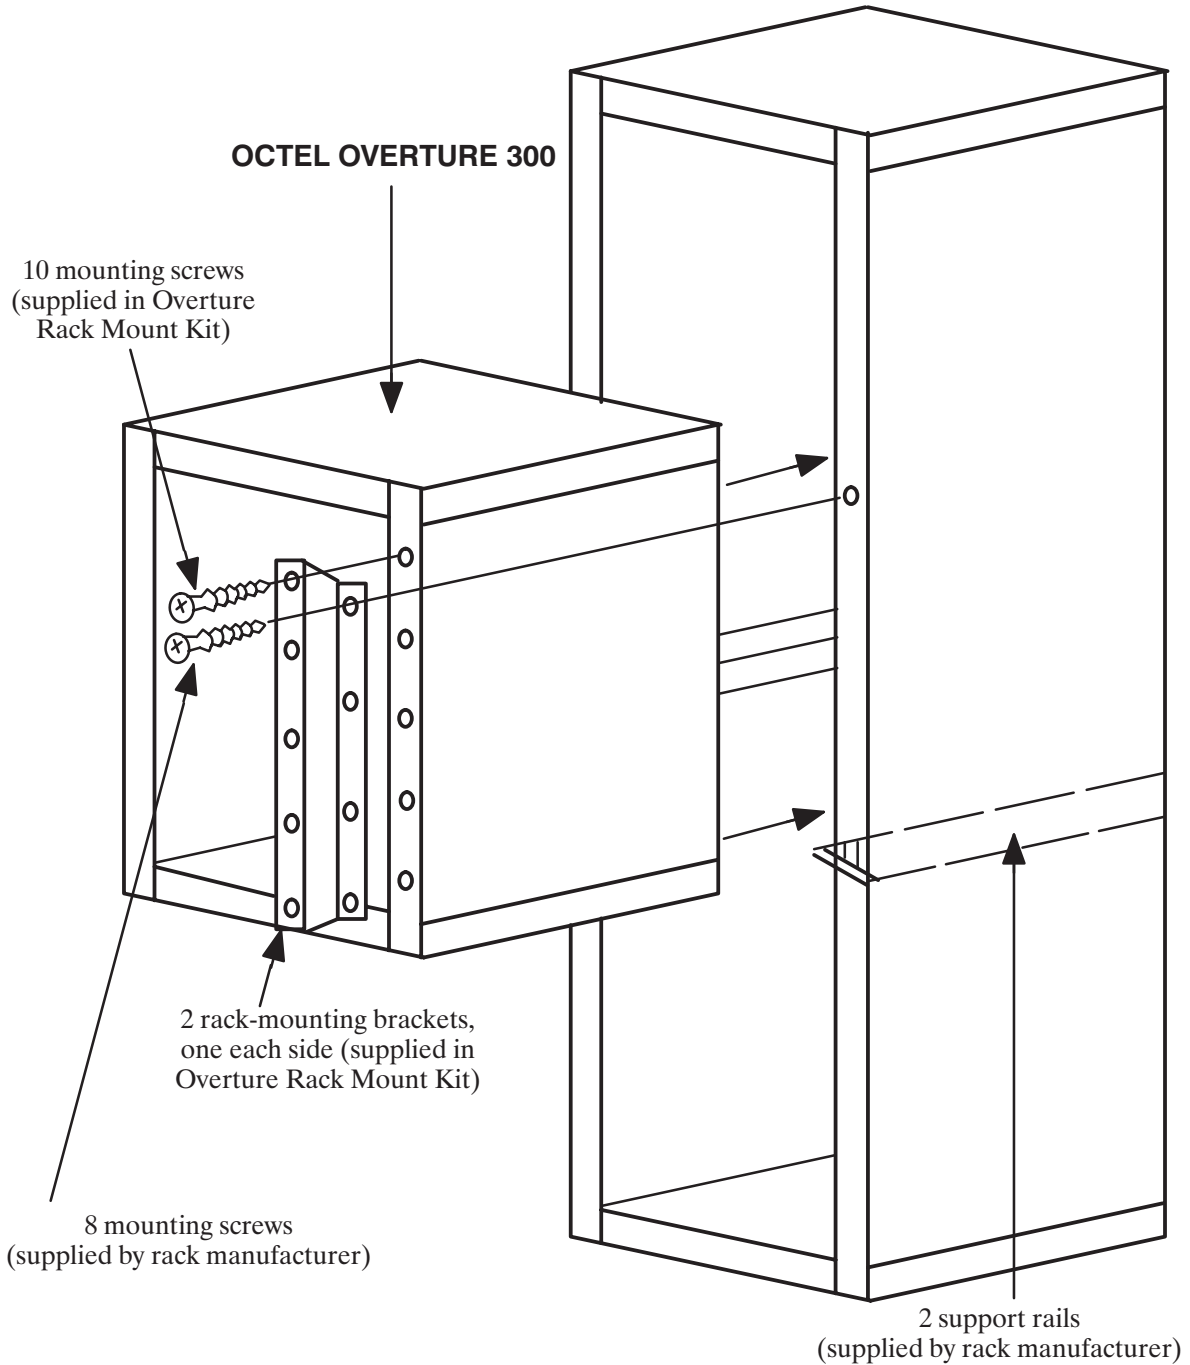

Figure 4-9 Octel Overture 200/300 Cabinet Installed in 19-Inch Rack
The Octel Overture 300 can be installed in a 19-inch rack. Figure 4-9 illustrates a rack-mount installation.
6. Install the rack-mounting brackets to the front vertical flanges of the Octel Overture 300 cabinet with the screws provided, using a Phillips screwdriver. Refer to Figure 4-9.